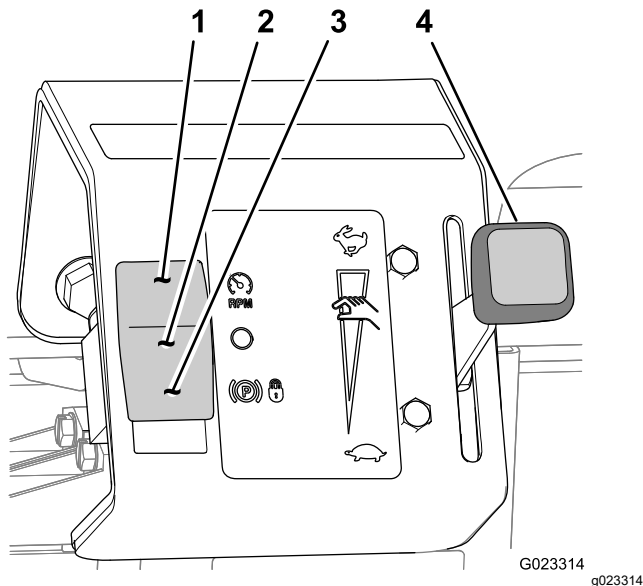

Figure 30
The hand throttle is used in conjunction with the mode switch to limit the maximum engine speed or set a fixed engine speed (Figure 30).
The mode switch (Figure 30) is used to control the function of the hand throttle for the following operations:
2. Move the hand throttle to the Slow position (Figure 30).
3. Press the mode switch up to the limit ground-speed position (Figure 30).
6. Move the hand throttle toward the fast position (Figure 30) until the desired ground speed is reached.
3. Press the mode switch up to the Off position (Figure 30).
3. Press the mode switch down to the throttle-lock position (Figure 30).
4. Move the hand throttle to the desired engine speed (Figure 30).
6. Move the hand throttle to the SLOW position (Figure 30).
7. Press the mode switch up to the OFF position (Figure 30).